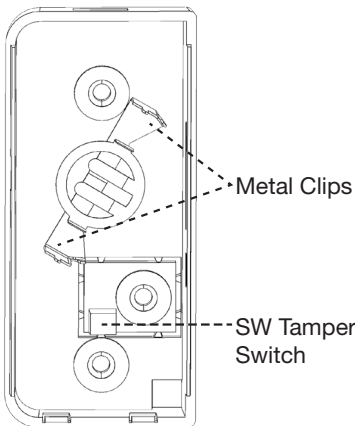

Figure 3
- Wire external contact wires into sensor terminal block (see **Figure 3**).